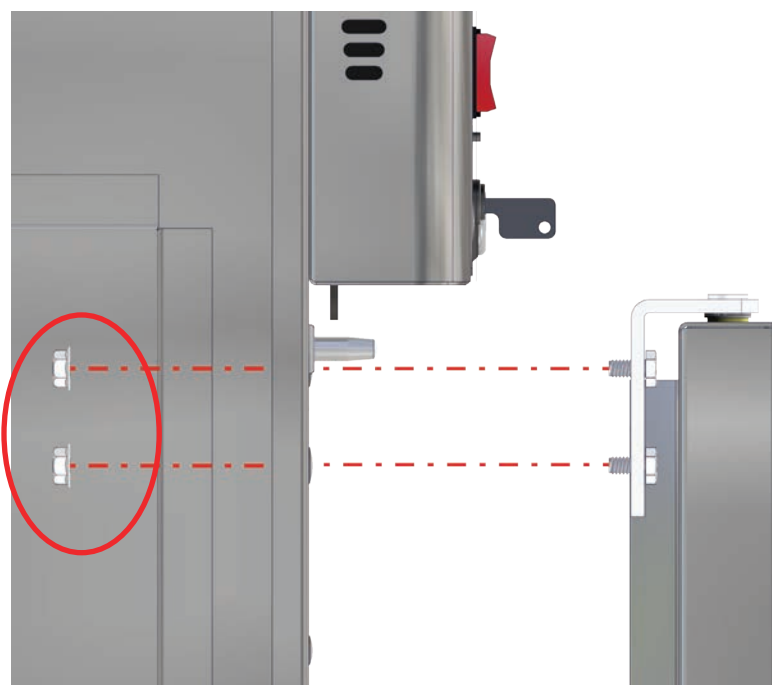

Figure 62: Install Top Hinge and Secure Door
9. Insert the screws into the top hinge (or intermediate hinge, if applicable). Then insert the hinge pin into the top socket of the door, aligning the hinge screws with the top (or intermediate) hinge holes on the unit as shown in Figure 62.
10. From the side of the unit, secure the door and top hinge with the hinge nuts shown circled in red in Figure 62.